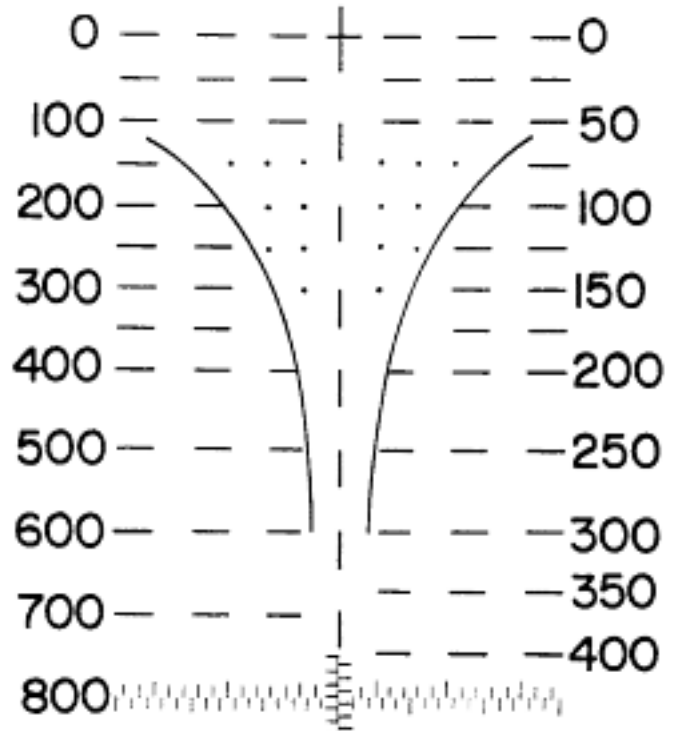

Figure 3.1 Sight reticle, M103A1 sight.
a. The M103A1 sight (fig. 3.1) is a modified version of the standard M103 sight. The modification has been made to the right side of the sight reticle and is to be referred to only when firing the XM591 round. The value difference of
Page 5. Figure 3.1 is added as follows: